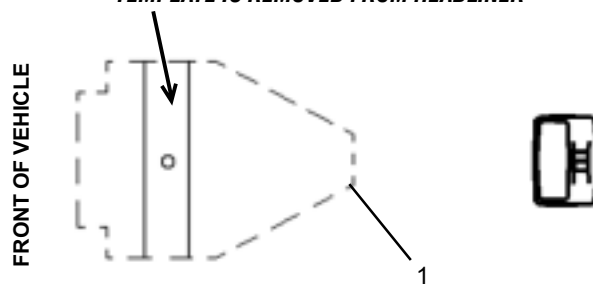

FIGURE 24
2. USING A SHARP UTILITY KNIFE, CAREFULLY CUT THE HEADLINER ALONG THE LINES TRACED ON THE HEADLINER (1) AND REMOVE THE CUTOUT MATERIAL. (SEE FIGURE 24)